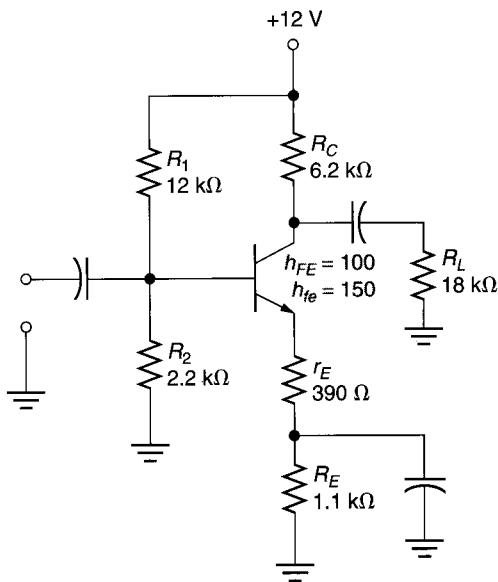

FIGURE 9.35
50. Determine the value of  $A_v$  for the amplifier in Figure 9.35.
53. Determine the values of  $Z_{in(base)}$  and  $Z_{in}$  for the amplifier shown in Figure 9.35.